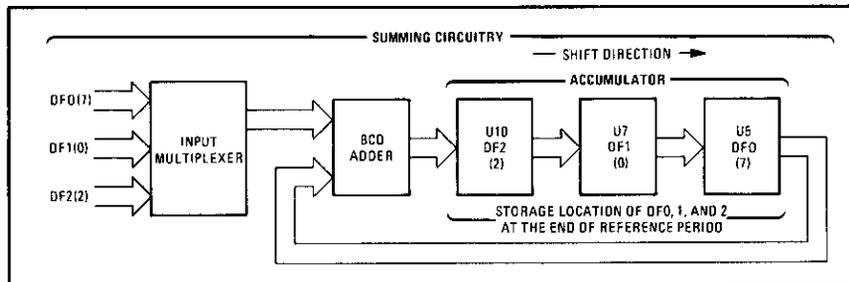

Figure 8-416. Summing Circuitry Simplified Block Diagram Showing the Content of the Accumulator after each Reference Period
To better understand the operation of the Summing Circuit, let's go through an example. When analyzing the operating of the Summing Circuitry it is better to view it in terms of reference periods. Let's assume that the Accumulator Registers initially contains the number zero and the fractional portion equals the number 207, that is, DF0=7, DF1=0, and DF2=2. At the beginning of the reference period the Input Multiplexer selects the four BCD lines which corresponds to the DF0 and steers the BCD data to the BCD Adder. The BCD Adder adds the DF0 number (7) to the number stored in U5. Since U5 contains the number zero, the resulting sum is just the number DF0. The sum is then latched into U10. At the same time the previous content stored in U10 is shifted into U7 while the previous content of U7 is shifted into U5 (shift right). This sequence is then repeated for both DF1 and DF2, respectively. Figure 8-416 shows the content of the Accumulator Registers after the end of one reference period. Note at the end of the reference period, DF0 is stored in U5, DF1 is stored in U7, and DF2 is stored in U10.